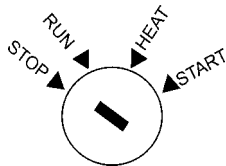

Figure 30. Key switch set to 'STOP' position
3. Turn the key switch to 'STOP' position (Figure 30).